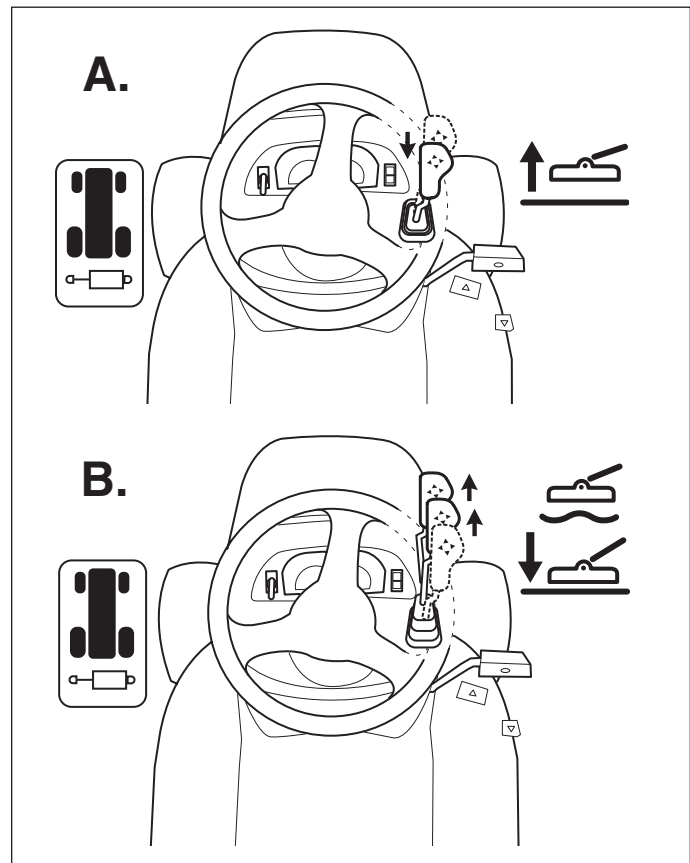

Figure 6. Inboard Hydraulics
6). Pushing the lever forward to the first detent lowers the attachment lift (B, Figure 6). Pushing the lever forward to the second detent locks the control in "float" position, allowing the lift mechanism to float up and down.